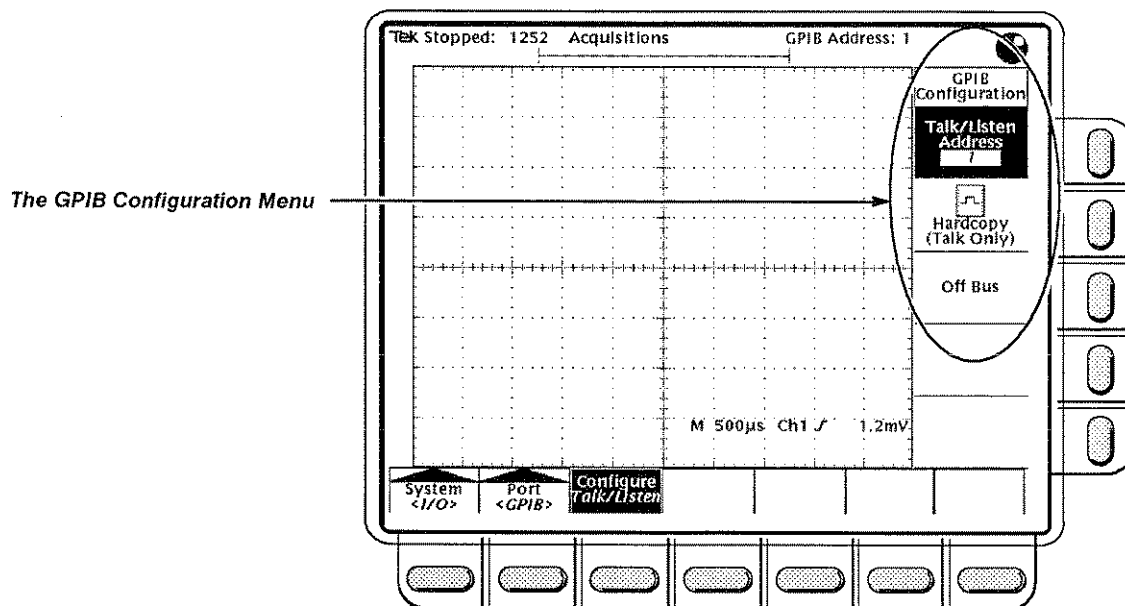

Figure 3-55: Utility Menu
- Step 1:** Press the **UTILITY (SHIFT and then DISPLAY)** button to reach the Utility menu (Figure 3-55).